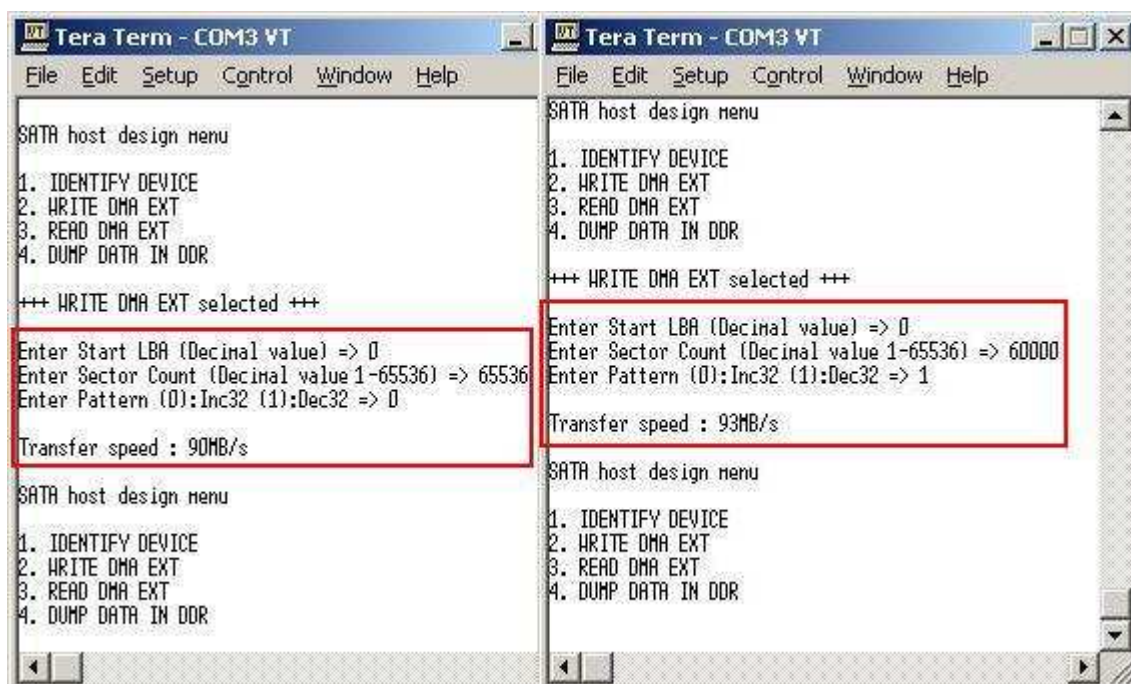

Figure5 Write Dma Ext menu
- After enter all inputs, wait until transfer finished and write transfer speed will be displayed as shown in figure 5. Write transfer speed will be more reliable when sector count value is larger value.
- Figure 5 shows the example of two pattern generation to HDD.